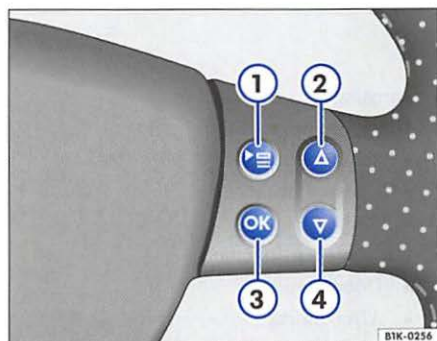

Fig. 9 Multifunction steering wheel: right side
- Press the button  on the multi-function steering ⇒ fig. 9 ① until the Settings menu is displayed.